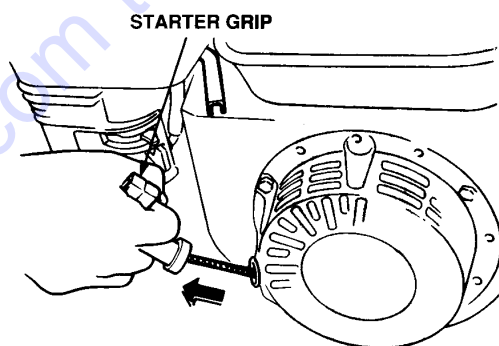

Figure 30. Starter Grip
5. Grasp the starter grip (Figure 30) and slowly pull it out. The resistance becomes the hardest at a certain position, corresponding to the compression point. Pull the starter grip briskly and smoothly for starting.